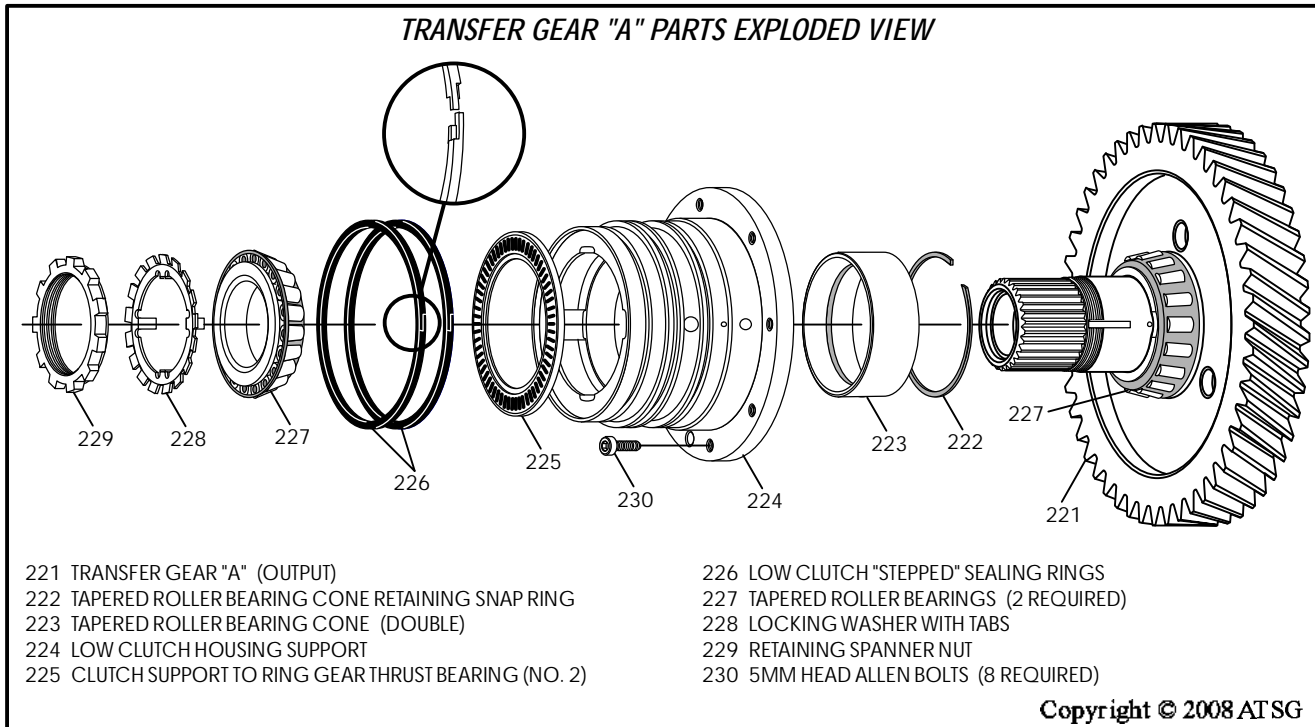

Figure 71
14. Using a small punch bend down the locking tab on the tabbed locking washer, used to lock the spanner nut in place (See Figure 71).
15. Loosen the spanner nut using a punch and then remove the spanner nut and locking washer, as shown in Figure 71.
18. Install new "stepped" sealing rings in grooves of the low clutch support and ensure that steps are properly engaged, as shown in Figure 71.